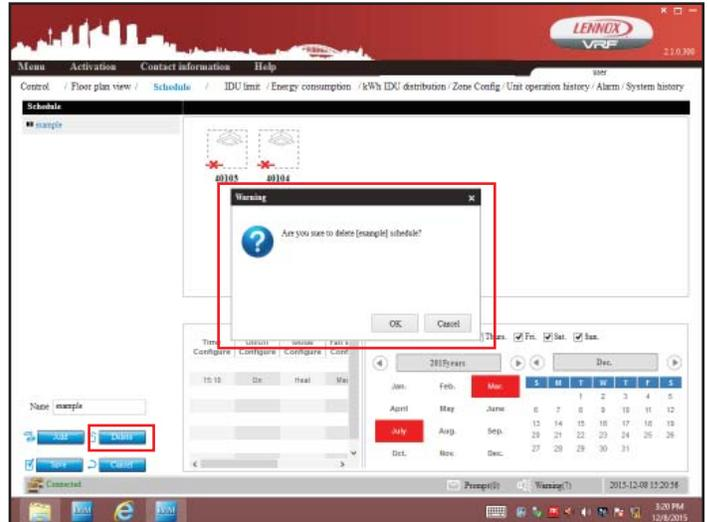

Figure 35. Delete Schedule
2. Tap the Delete button on the bottom left of the screen. See figure 35.